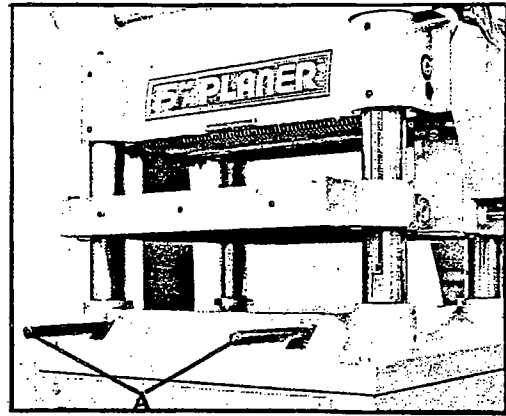

Fig. 1
There are four lifting handles, separately furnished in the front and rear parts of the units base mount. All lifting handles are of hidden type. Pull the handles out for use pushing when not in use. Two of the lifting handles are as shown in Figure 1 (A).